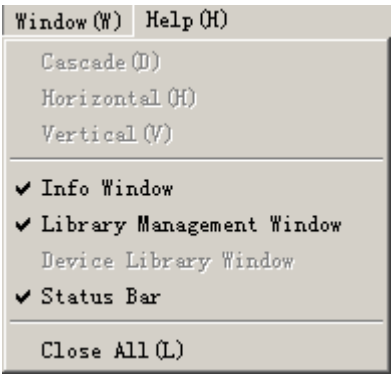

Figure 48 Window Menu
[Window (W)] menu provides orders used to set layout of windows in work area, hides or displays designated windows, and provides orders of switching display or switching to windows opened recently, as shown in Figure 48, with detailed description of functions as follows: